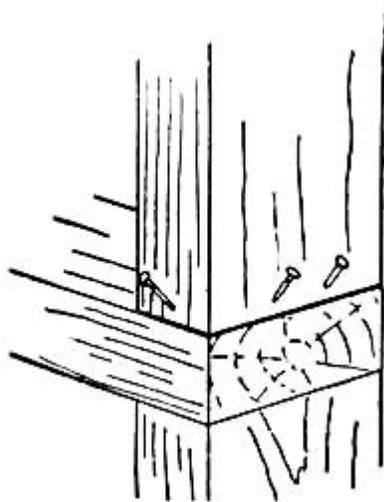

FIG. 31.—Toe-nailing.
**Toe-nailing** consists in driving nails diagonally into a piece of wood. It is used in fastening the ends of uprights, as shown in Fig. 31, where the nails cannot be driven in any other way, and also where there is danger of a board springing. You will often find it convenient to use this form of nailing when the nails are too long to be driven straight into the work.